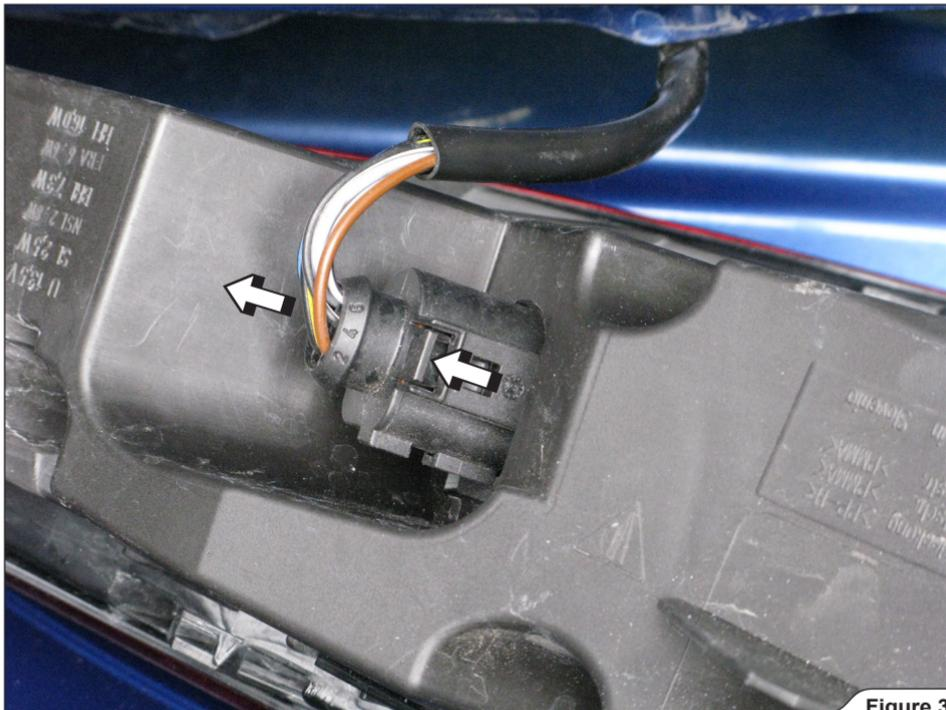

Figure 3
3. **For Slip-On and Slip-On with optional Link Pipes:** disconnect the lights' connectors and remove both tail lights off the vehicle (**Figure 3**).